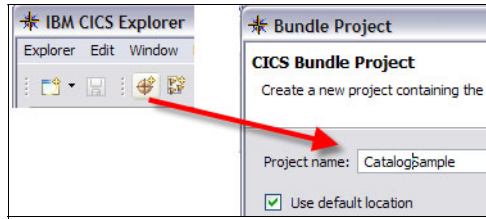

Figure 2-3 Creating a CICS Bundle project
2. Create a CICS Bundle project. See Figure 2-3.